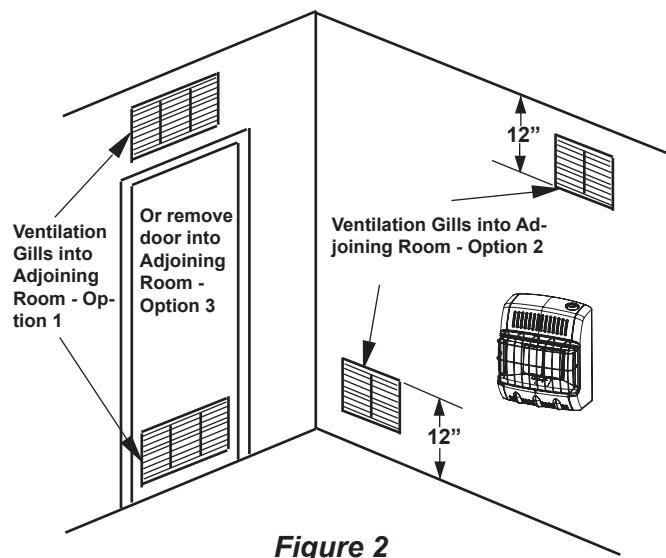

Figure 2
- A. Rework worksheet, and the space of an adjoining room. If the extra space provides an unconfined space, remove door to adjoining room or add ventilation grills between the rooms. See Ventilation Air From Inside Building (Fig. 2)
This fresh air would come from an adjoining unconfined space. When ventilation to an adjoining unconfined space, you must provide two permanent openings: one within 12" of the ceiling and one within 12" of the floor on the wall connecting the two spaces (see options 1 & 2 of figure 2). You can also remove door into adjoining room (see option3, fig 2). Follow the National Fuel Gas Code NFPA 54/ ANSI Z223.1, Section 5.3, Air for Combustion and Ventilation for required size of ventilation grills or ducts.